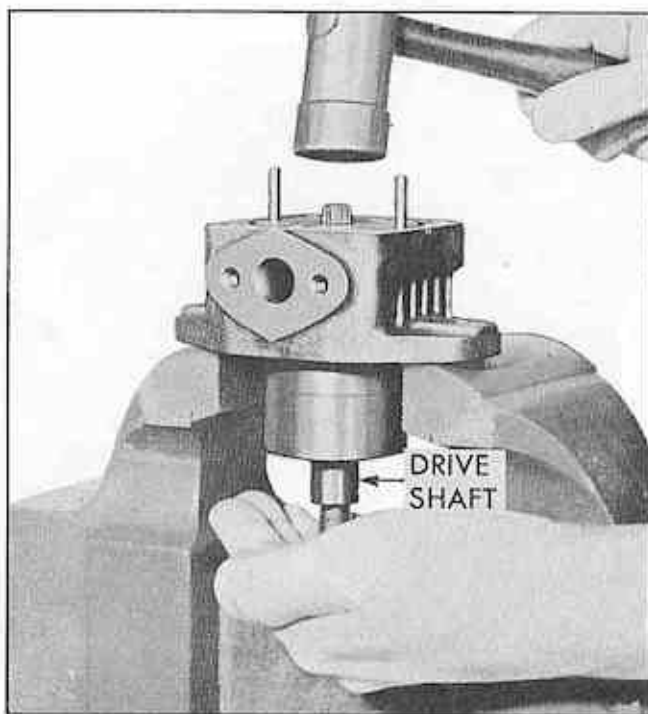

Fig. 102 Removing Pump Drive Shaft and Bearing from Pump Body
14. Remove drive shaft with large sealed bearing by lightly tapping on splined end (Fig. 102).